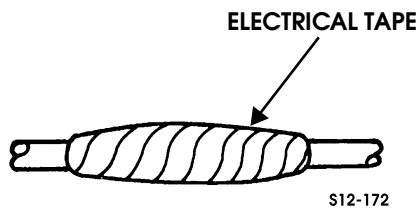

Figure 12-11: Electrical Tape
4. Slide both ends of wire into splice clip and crimp splice clip to wire ends (Figure 12-11).